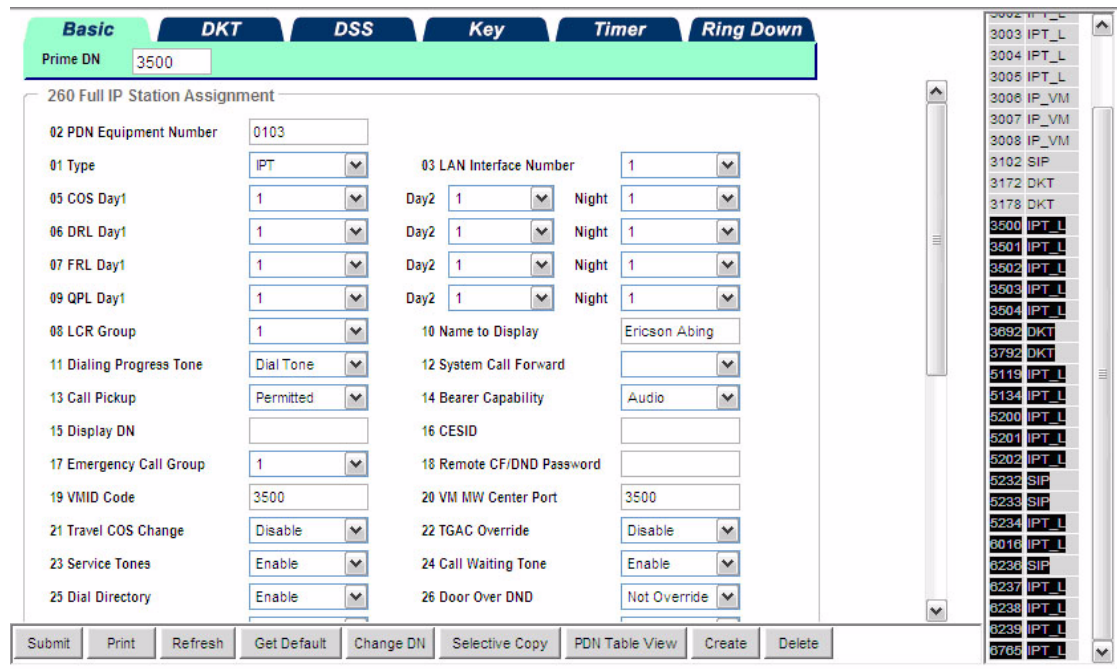

Figure 2-10. Program 260 - Full IP Station Assignments
- Figure 2-10 shows that extensions 3500-3504 have been created.